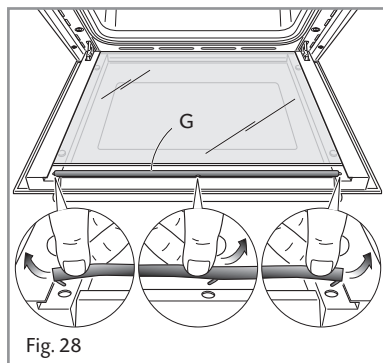

Fig. 28
- Remove the seal "G" by unhooking the no. 3 fixing hooks (fig. 28).